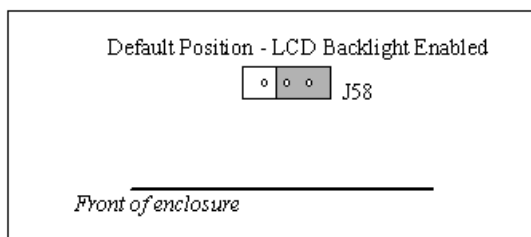

Figure 3-2 View of Header J58
4. Header J58 shown in Figure 3-2 is used to enable or disable the backlight of the front-panel LCD. In its default position, the LCD backlight will be enabled, making it easier to read the LCD status display and serving as a power-on indicator for the MBX 1553. If it is desired to disable the LCD backlight, move the header from the right position to the left position, as viewed from the front of the MBX 1553 enclosure.